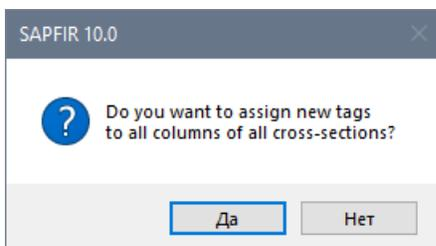

Figure 27.8. SAPFIR 10.0 message box
- ⇒ In the SAPFIR 10.0 message box (see Fig. 27.8), to assign new tags to all columns of all cross-sections, click **Yes**. The tags will be displayed in the **Tag** table column.